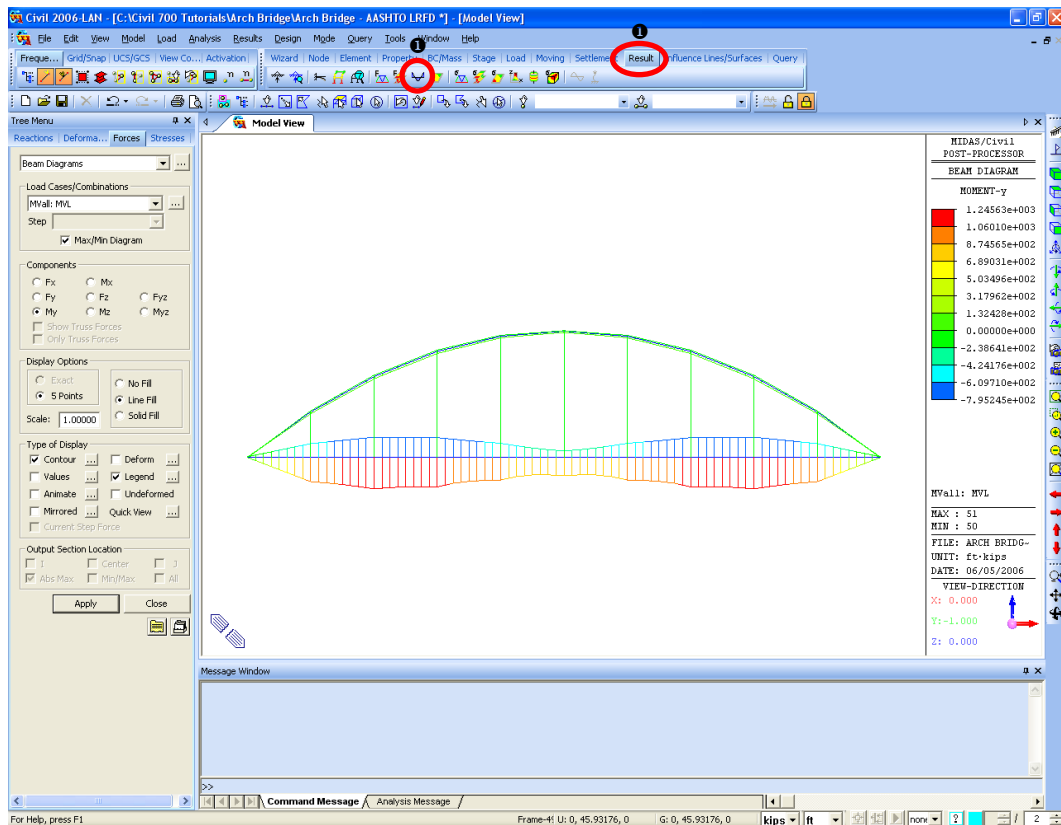

Figure 4.28 My diagrams (XZ Plane) for the Beam
The method for reviewing the shear force and bending moment diagrams are quite similar. Therefore, only the method for displaying the bending moment diagram is reviewed in this case. This method is not intended to capture the bending moment diagram of the entire structure. The purpose is to display only the results related to a specific part of the structure. For instance, the following steps illustrate the procedure to display the bending moment diagram in the X-Z plane (Figure 4.28).⁶
8. Select  **Beam Diagram** on the **Result** tab in toolbar (Figure 4.28⁷).